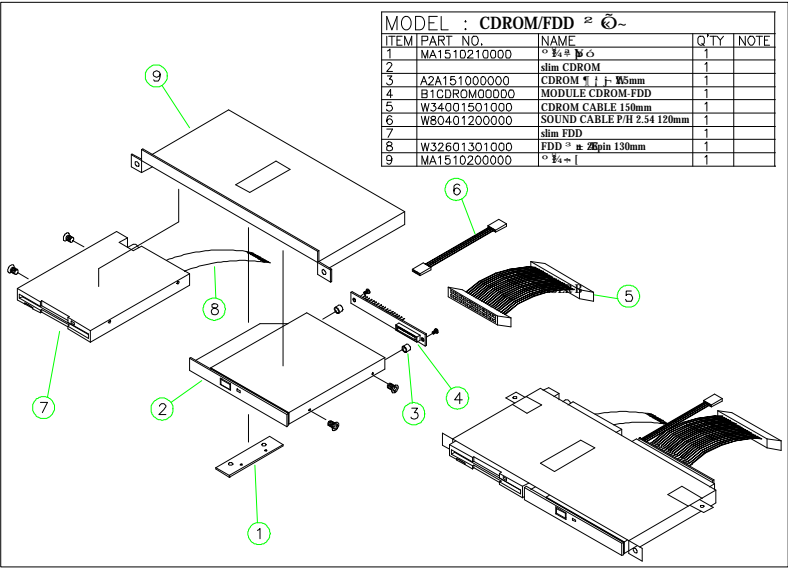

FIGURE 5-10: CD-ROM/FDD MODULE ASSEMBLY
2. Refer to Figure 5-10. Attach the CD-ROM board (4) to the slim CD-ROM (2) and fix them together with 2 screws.
3. Insert the CD-ROM module to the CD-ROM/FDD bracket (9) and fix them together with 2 screws.
5. Attach one end of the 26-pin FDD flat cable (8) to the slim floppy disk drive (7) first.
7. There is a small metal bracket (1) used to firmly fix the CD-ROM and FDD modules to the CD-ROM/FDD bracket. This small bracket is to prevent the CD-ROM/FDD from moving when installed to the FDD/CD-ROM bracket.
- 9. There is a 4-pin CD audio-in cable to be plugged to **CD1** on the motherboard. Connect the other end of the CD-Audio cable (6) to the 4-pin black pin connector on the CD-ROM board.